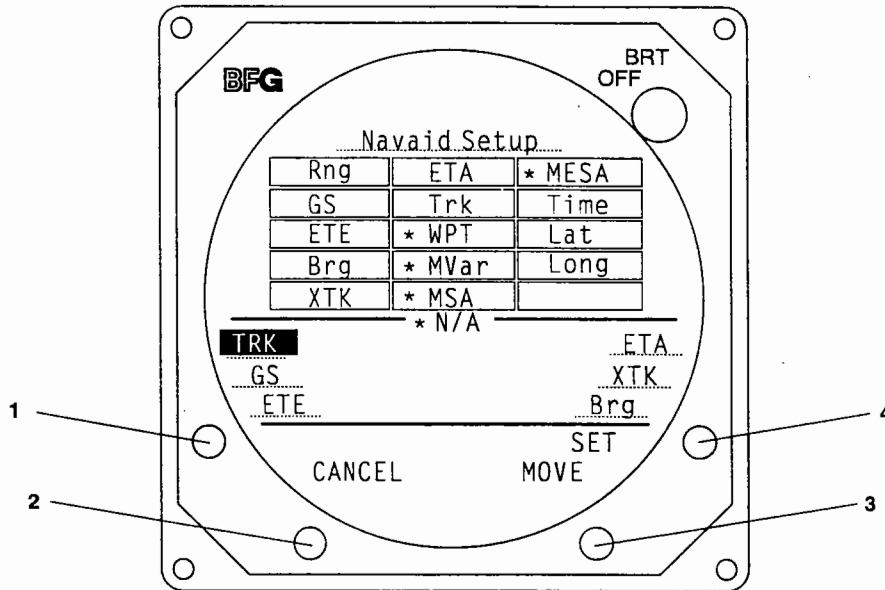

Figure 3-14. Selected Item "Placed"
3. **PLACE** duplicates the high-lighted item in the grid on the first of the six display lines for navigational data. The highlight disappears from the grid. (The item from the grid appears on the first line even if another item is already there.) See figure 3-14.
When a high-lighted navigational item from the grid is PLACED with the items that will be displayed, the button legend changes (figure 3-14). The buttons now perform the following functions: